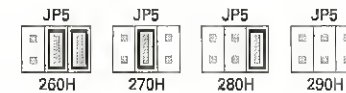

Figure 5-3: The configuration of jumper JP5 for available base I/O addresses.
4. Using Figure 5-3, identify the pair(s) of jumpers to place block(s) on for your desired base I/O address setting.
The factory default base I/O address is 260H. This is represented on your 3DO Blaster by a unique configuration of jumper blocks on jumper JP5. By rearranging the jumper blocks on JP5, you can obtain other base I/O addresses for your 3DO Blaster. Other base I/O addresses available are 270H, 280H, and 290H. Their corresponding locations of jumper blocks and the factory default's are shown in Figure 5-3.